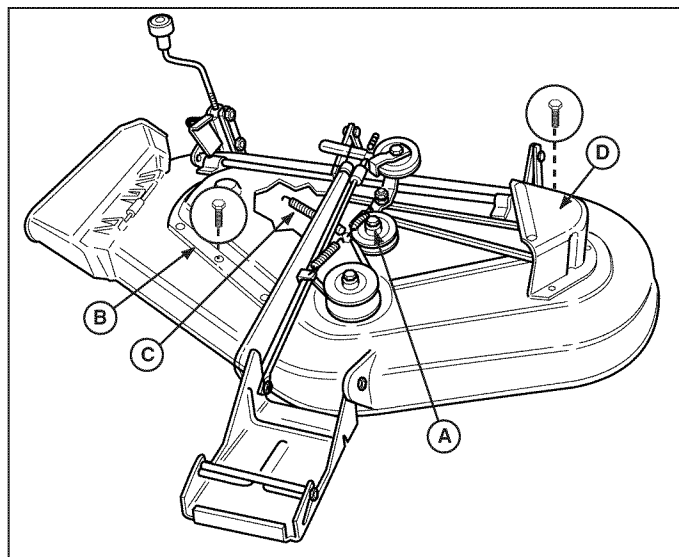

Figure 43. Mower Deck - 44" Mowers
3. Remove the capscrews securing the right-hand arbor cover (B, Figure 43). Remove three capscrews securing left-hand arbor cover (D).
4. Using a pair of locking pliers or a spring puller, remove the idler pulley spring (C, Figures 43) from slot in deck.
5. Loosen capscrew (A, Figure 43) securing the idler pulley to the bracket. The belt can now be slipped between the pulley and idler bracket hub.
7. Tighten the capscrew (A, Figure 43).
8. Reinstall spring (C, Figures 43) into its slot in mower deck.
9. Reinstall the left and right arbor covers (B and D, Figures 43).